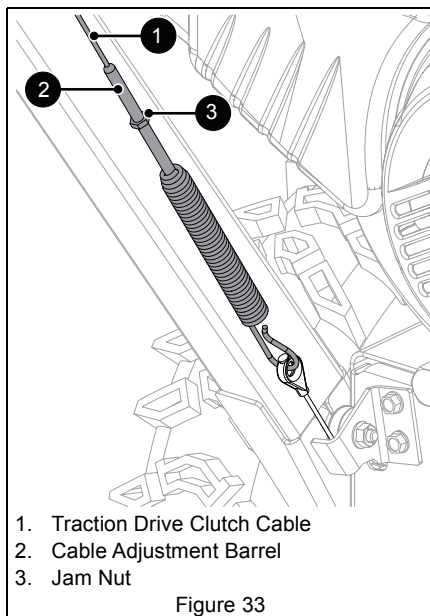

Figure 33
See Figure 33.
6. Tighten jam nut on cable adjustment barrel. See Figure 33.